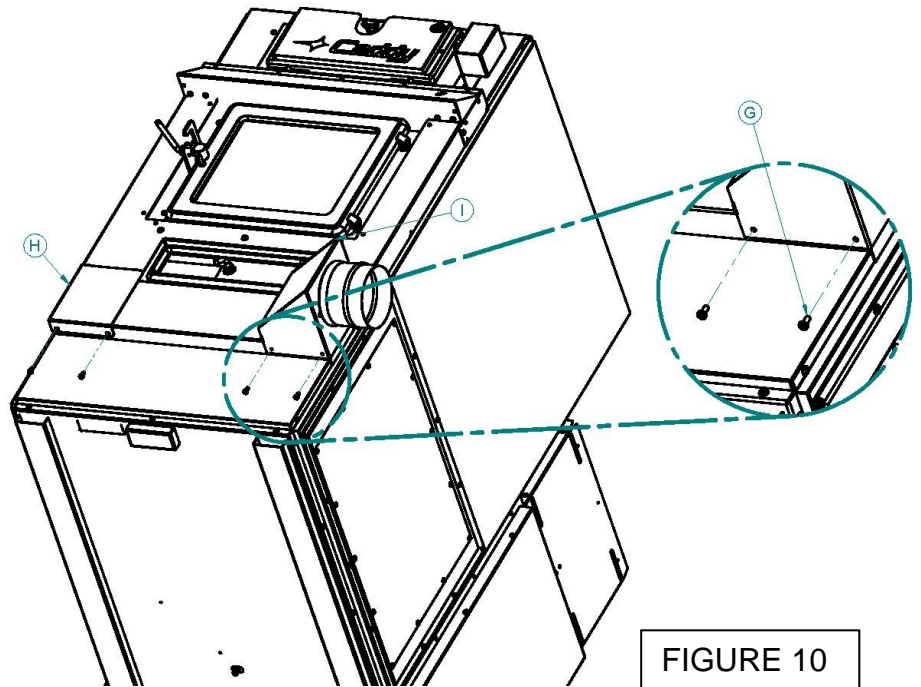
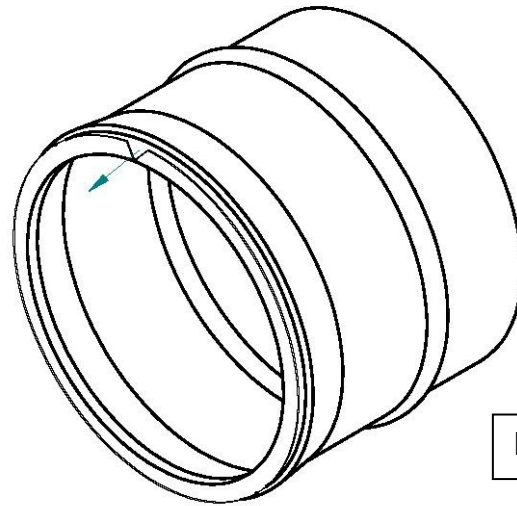

FIGURE 10
FIGURE 11
**Step 10:** Secure the lid of the fresh air intake adapter (H) and the right fresh air intake adapter box (I) to the lower part of the fresh air intake adapter using two supplied screws (G) each, as shown on figure 10.
**Step 11:** Cut a « V » shape notch using sheet metal scissors, as shown on figure 10. Use pliers to bend a part of the lip of the adapter towards the exterior, as shown by the arrow on figure 11.